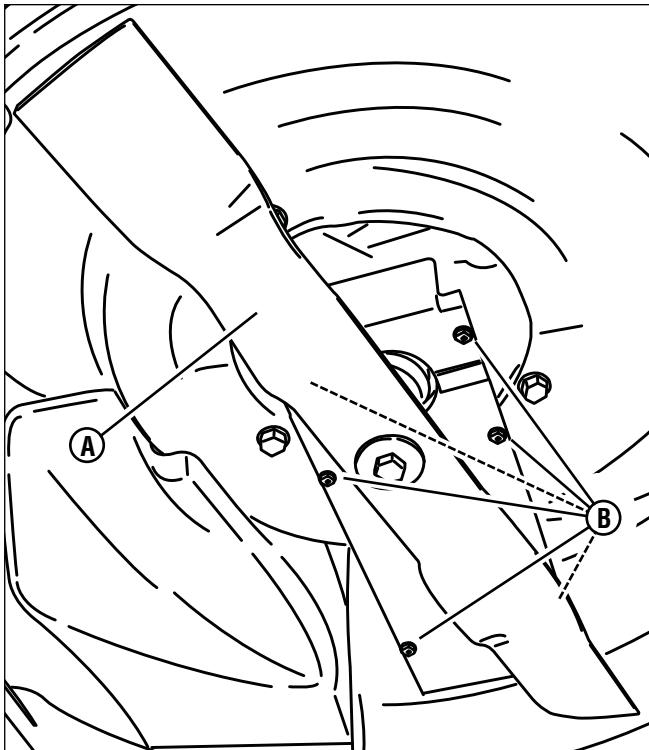

Figure 21: Removing the blade and belt cover
2. Remove the blade **(A, Figure 21)**. Refer to the Section entitled "Blade Sharpening".